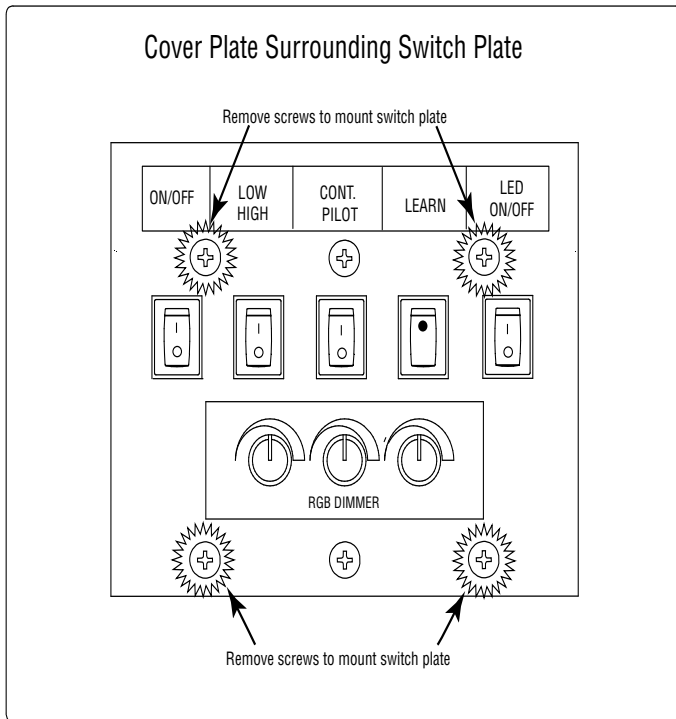
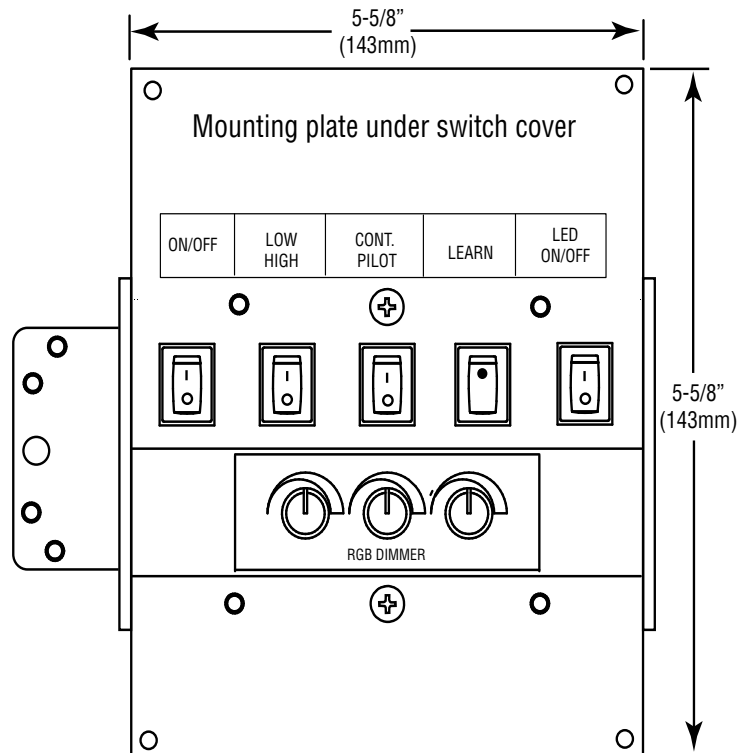
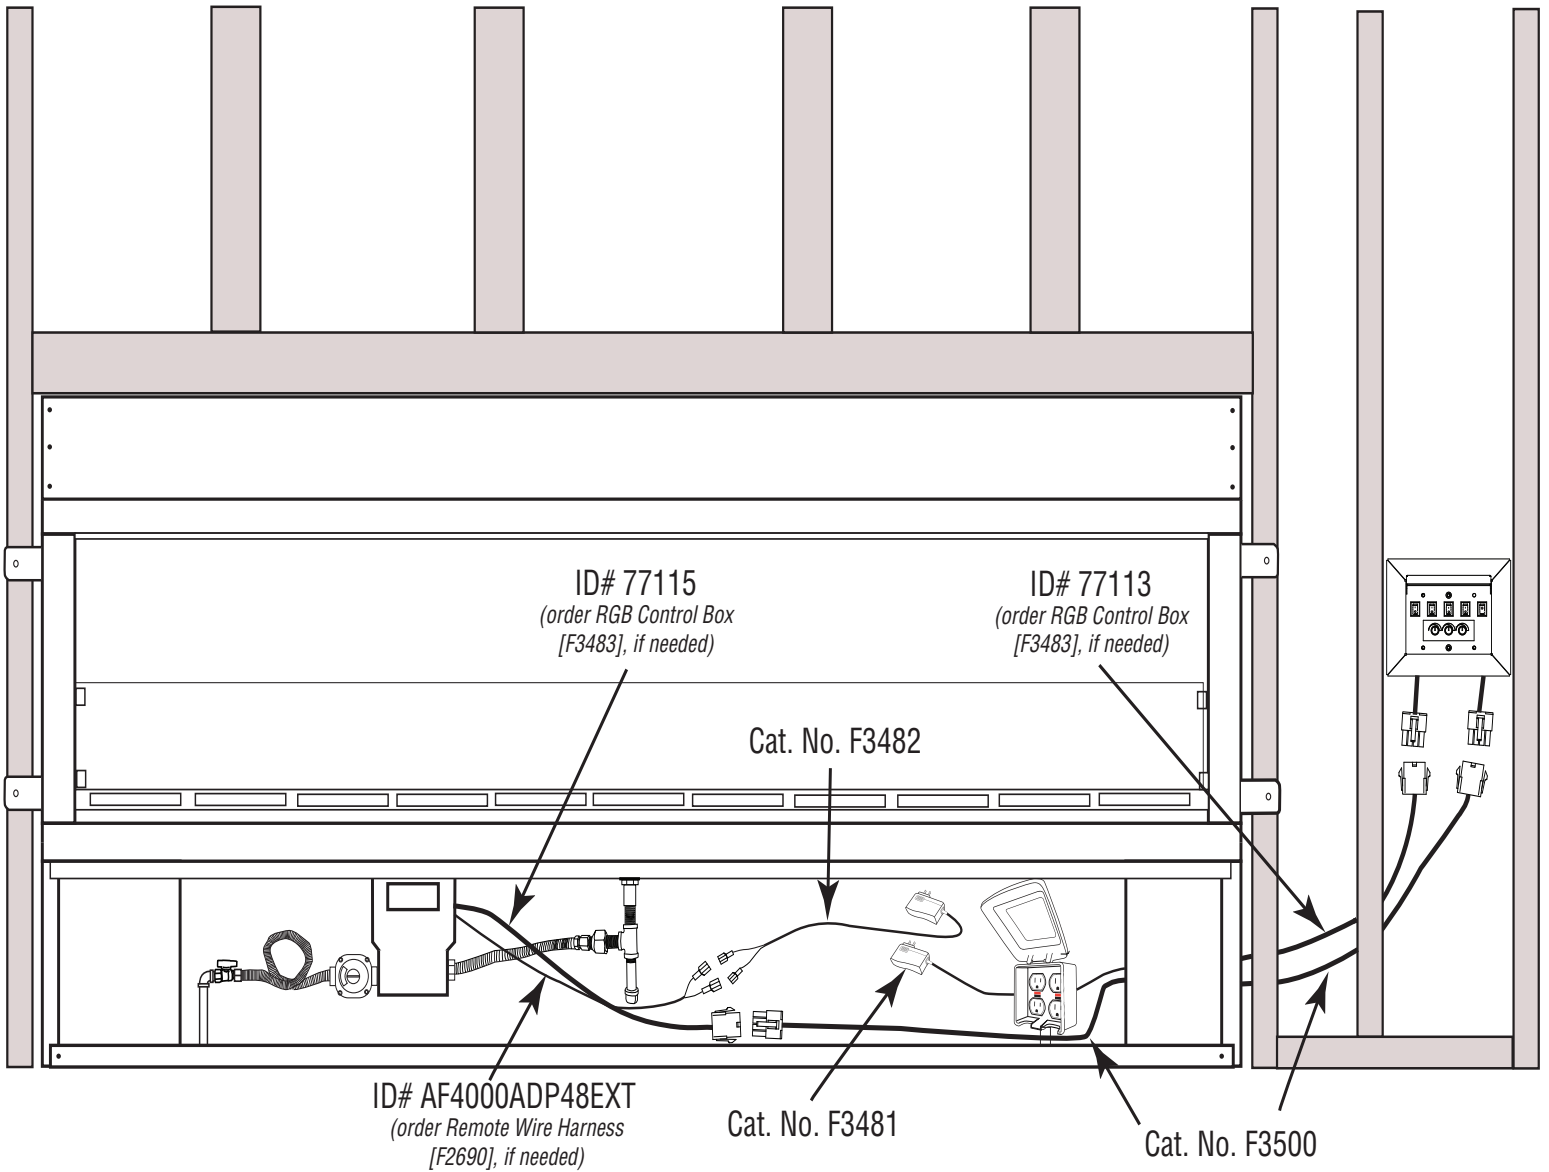

Figure 25 - RGB Control Box with 8-3/4" x 8-3/4" Cover Plate
Figure 26 - RGB Control Box Mounting Plate
Figure 27 - Overview of fireplace wiring
Step 10: Remove the RGB control box from the components parts carton. The fireplace is supplied with 10-feet of wiring for the RGB control box (switches and dimmer) installation. Find a suitable location within a close proximity of the fireplace for convenience of operation and mount the control box upright and level as shown in **Figure 27**. Use **Figures 25 and 26** for dimensional reference.
Step 11: Remove the four (4) outer screws from each corner inside the cover plate and lift off. See **Figure 25**. This will expose the mounting plate. See **Figure 26**. **CAUTION: DO NOT REMOVE THE TWO CENTER SCREWS FROM THE COVER PLATE. THIS WILL RELEASE THE ENTIRE SWITCH BOX WIRING FROM INSIDE THE JUNCTION BOX AND MAKE IT DIFFICULT TO REINSTALL.**
Step 13: Remove the 8-PIN module wire harness (Cat. No. F3500) from the components part box. Locate the 8-PIN male connector from the valve box (under the fireplace) and connect it to the 8-PIN female end of the wire harness. Connectors only attach one way; press together until it snap locks into place. See **Figure 27** for details.
Step 16: Locate the 6-PIN wire harness (Cat. No. F3500) for the LED lights and feed the wire harness up to the RGB control box and attach. Connectors only attach one way; press together until it snap locks into place. See **Figure 27**.